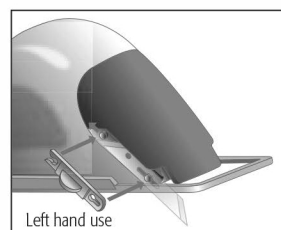

Fig. 1
- 4 Replace the Blade Clip, taking care to position the open end of the clip to the top. Slide upwards until clip snaps into place (**Fig. 1**)